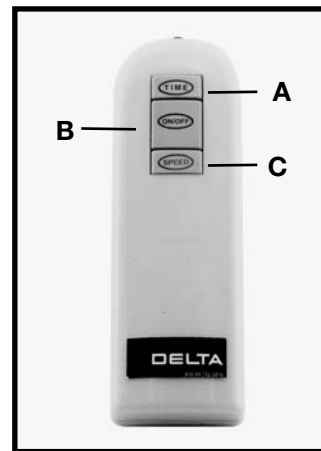
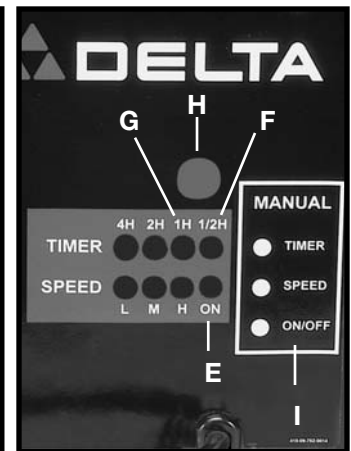

Fig. 10A
Fig. 10B
Notice that the remote control has three control buttons (Fig. 10A): TIME (A), ON/OFF (B), and SPEED (C). These buttons correspond to the LED sensor panel on the rear of the machine (Fig. 10B). **NOTE:** When the machine is connected to the power source, a green light (E) will be activated on the panel.
To activate the blower unit, press the "ON/OFF" button (B) Fig. 10A. The machine will begin in the default speed of low or "L" on the sensor panel. Press the SPEED button once, and the machine will run at the high (or "H") level. Press the SPEED button again and the machine will run at the medium speed (or "M"). Press the SPEED button a third time and the machine will return to low speed mode.
To turn the machine off, press the "ON/OFF" button (B) Fig. 10A.
The 50-870 Dust Collector provides a timer that can be set by remote control. (A) Fig. 10A.
When the TIME button (A) Fig. 10A is pressed on the remote control, the machine will run for 1/2 hour. (An LED light will show up on the sensor panel (F) Fig. 10B). Pressing the TIME button again will set the machine to run for one hour. Notice that the light on the sensor panel has now moved to the 1H location (G) Fig. 10B. When the TIME button is pressed a third time, the machine will run for 90 minutes. At this point, two lights will appear - one under the 1H location (G) and one under the 1/2H location (F) indicating an hour and a half. Continue this process for up to 7 1/2 hours of run time.
All of these actions can be manually controlled by using the buttons on the sensor panel (I) Fig. 10B.